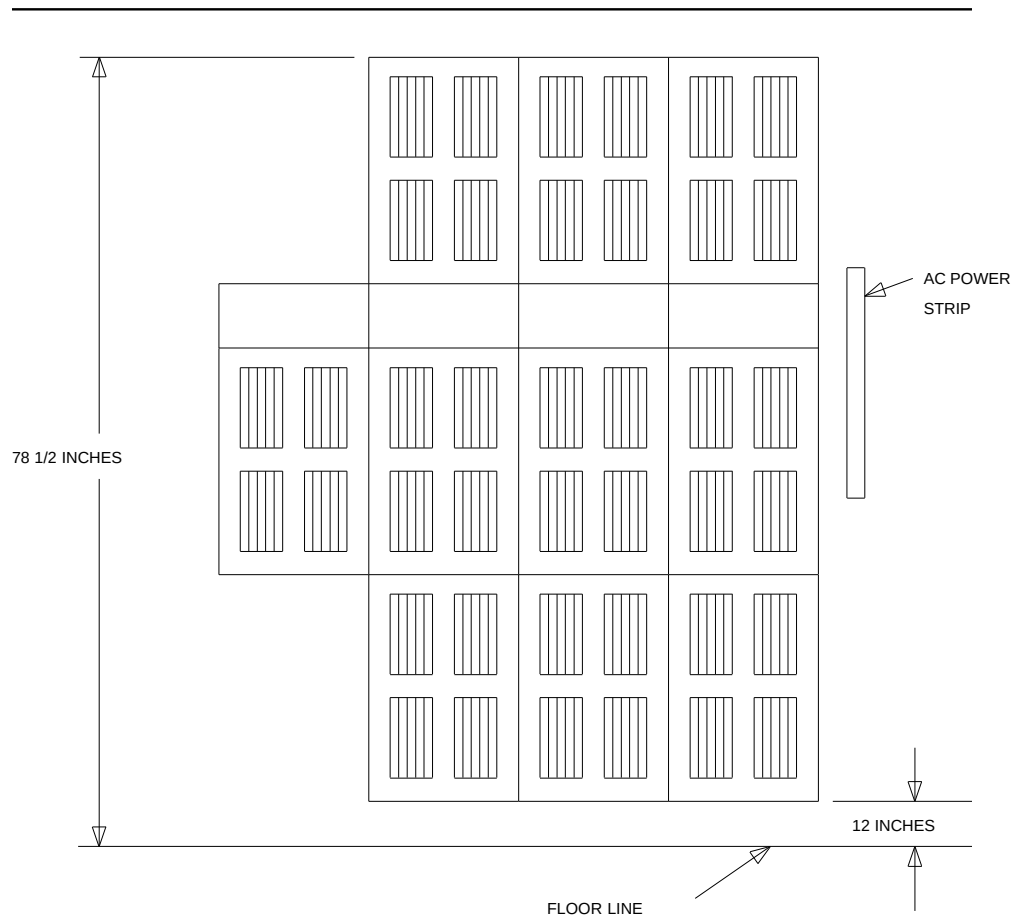

Figure 9-15. Cross-Connect Field Installation, 66-Type Connecting Blocks
1. Draw a level horizontal line on the wall 12 inches above the floor (Figure 9-15).